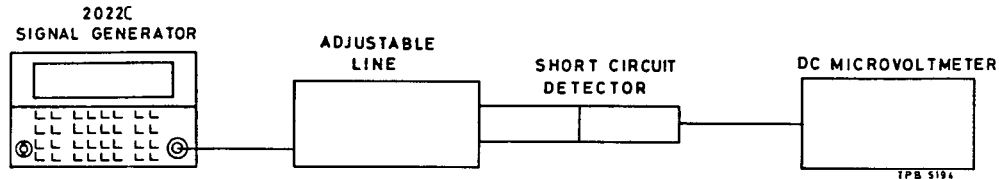

Fig. 5-11 Test gear arrangement to check VSWR above 350 MHz
- (1) Connect the test equipment as shown in Fig. 5-11 and set the 2022C controls as follows :